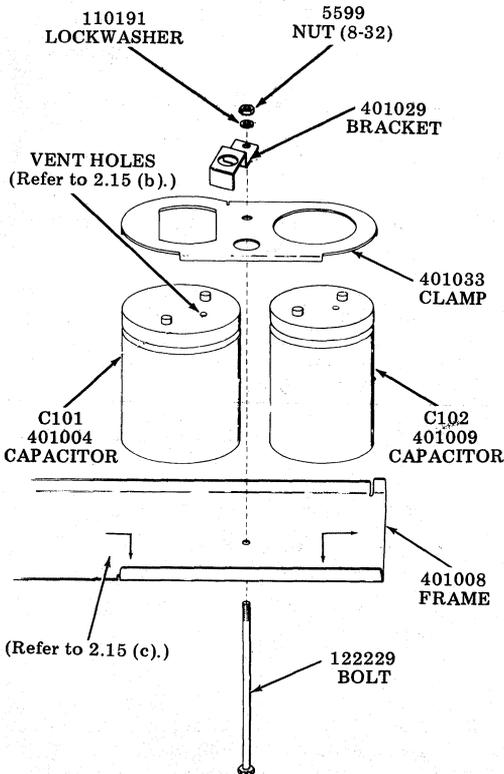

Fig. 29—Parts Peculiar to Early Design Power Supply
2.15 When replacing capacitors, clamp and fuse assembly (Fig. 29):
- (b) Prior to tightening the 5599 nuts, bias the capacitors to the outermost ends of the capacitor clamp and forward to the formed-up edge of the power supply frame as shown in Fig. 29.